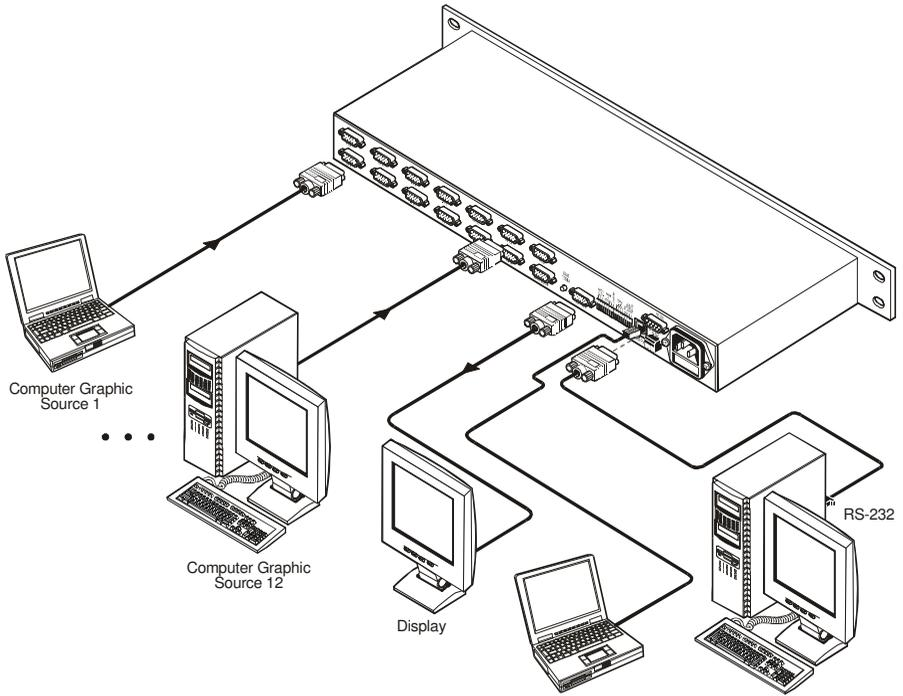

Figure 3: Connecting the VP-1201
- Video sources (see Figure 3)